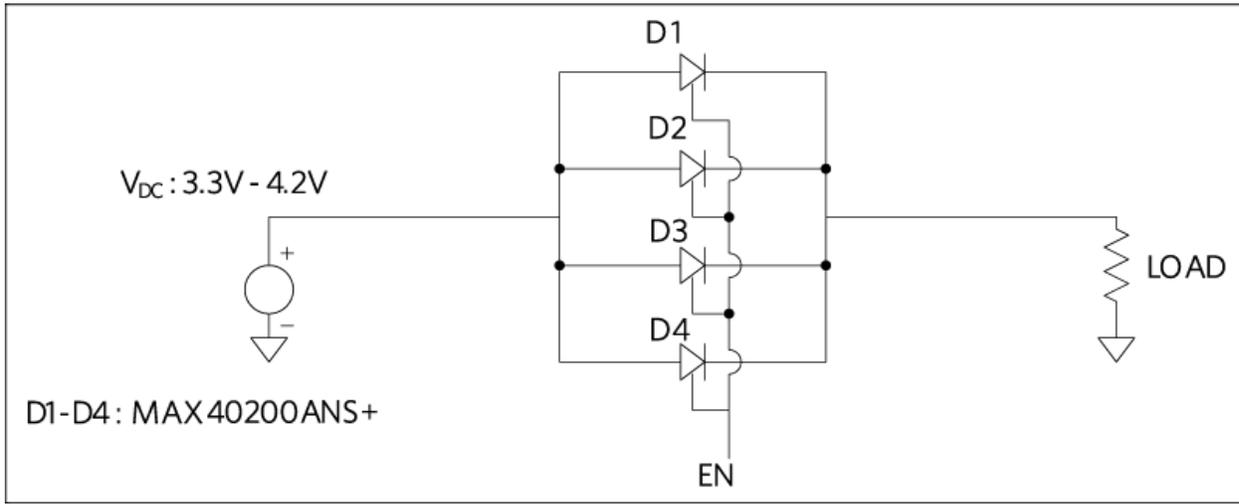
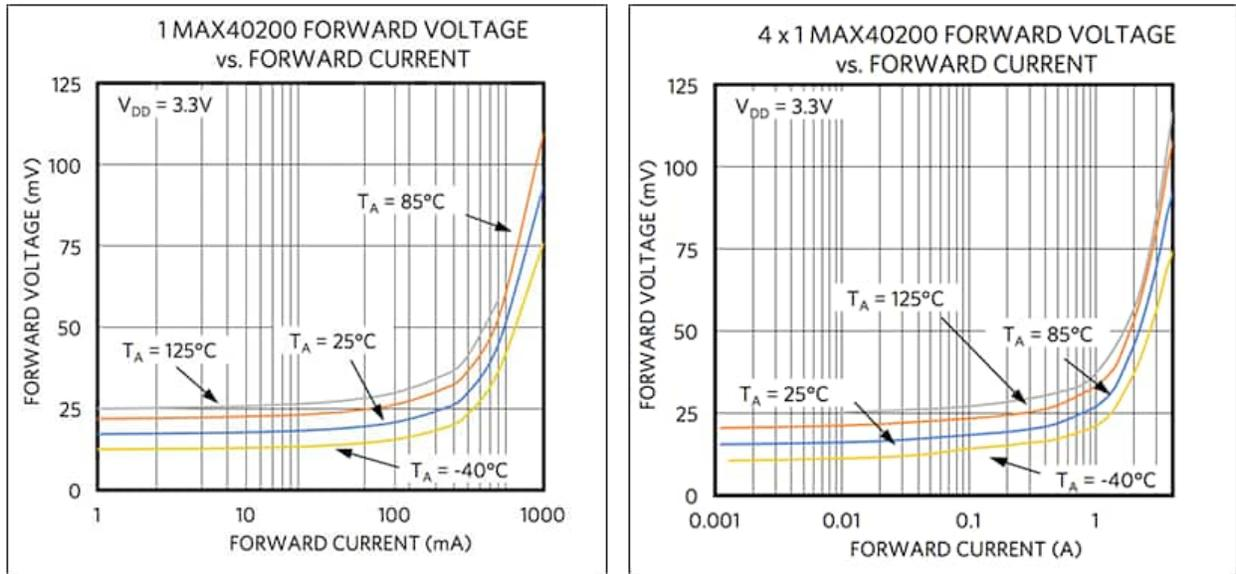

Figure 1. Typical application circuit to increase current sharing to carry high currents.
Figure 1b. Comparison of one MAX40200 device and four MAX40200 devices.
**Figure 1** shows four MAX40200 devices paralleled to up to 4A of current. If the devices are placed closer to each other, the temperature of each device is close to one another. Since the devices are at same temperature, they are expected to have similar characteristics. **Figure 1a** shows the DC characteristics of forward drop vs. forward current. **Figure 1b** shows a comparison of one MAX40200 device and four MAX40200 devices, confirming that the characteristics of one MAX40200 device and four MAX40200 devices are very similar.